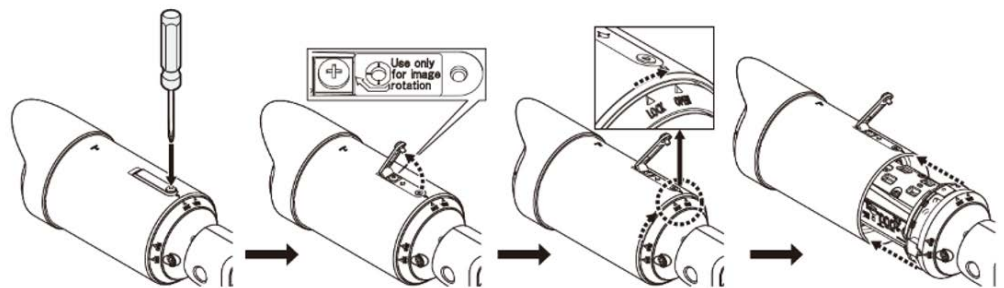

Figure 3-1: How to remove external sunshade
1. Remove the external sunshade for preparations (Figure 3-1).